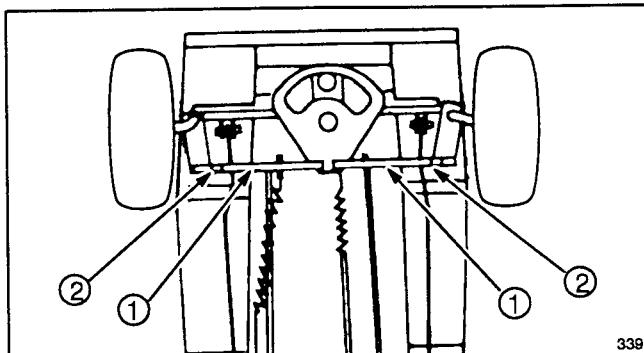

Figure 28
- To align the front wheels, loosen the jam nut and turn the tie rod until the centerline distance across the front of the wheels (d') is .06 inch (1.5 mm) to 0.25 inch (6.3 mm) less than the centerline distance across the rear of the front wheels (d'') (Figs. 28 and 29).